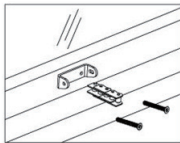

Figure2
- Keep the center line of the window open door and the mounting bracket of the chain coincide with each other, and keep the direction of the longer hole in the mounting bracket and the chain inside, meanwhile, make the chain to operate the windows closed, then use two of the $\Phi 5*25$ mm pan head tapping screws to fix, as shown in Figure 2.